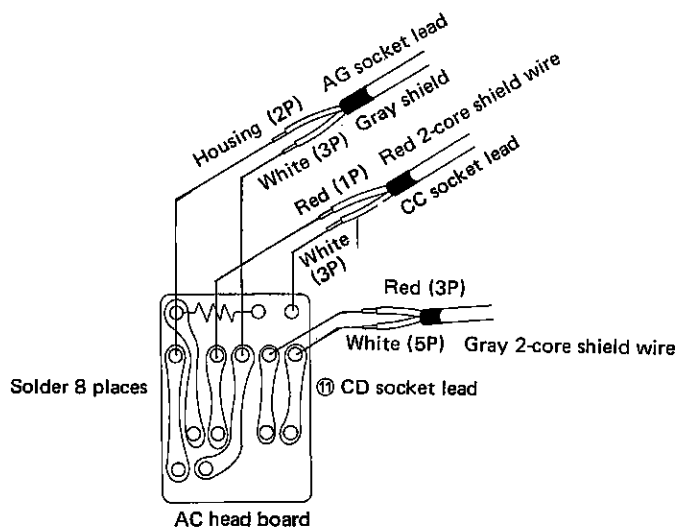

Figure 34.
A/C HEAD REPLACEMENT (See Figure 34)
1. After replacement, be sure to adjust tape travel. During replacement, never touch the head surface by hand (where indicated with the arrow in Figure 34).